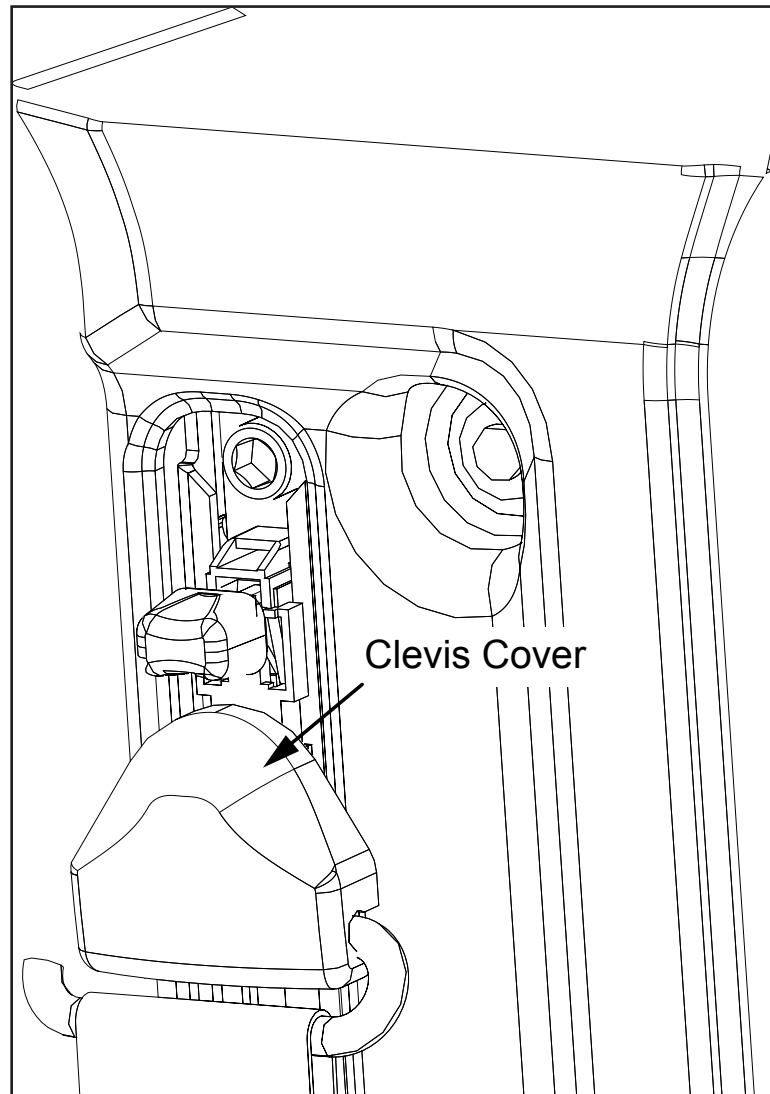

Figure 16
17. Install the clevis cover. Repeat step 17 for the opposite side (see *Figure 16*).